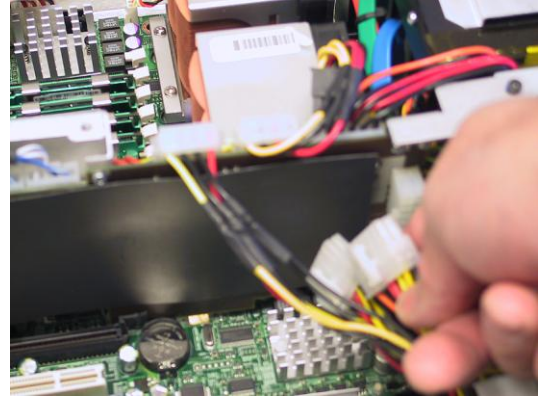

Figure 5-50
- 3) Unplug the bottom power input connector from the power distribution board (Figure 5-50).